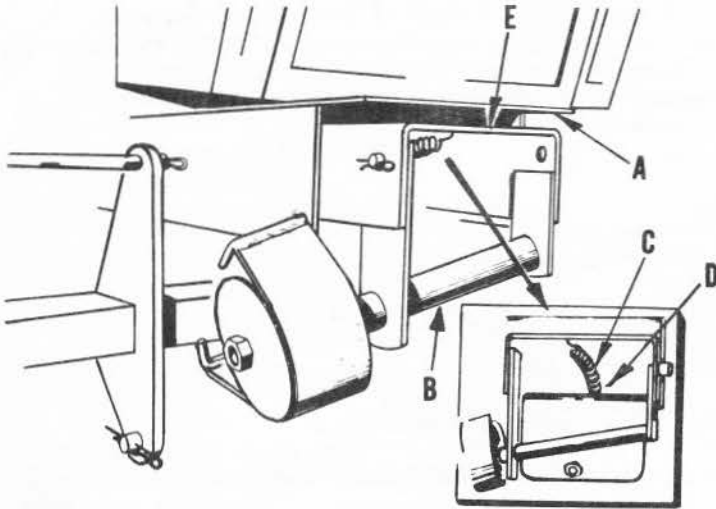

FIG. 4
1. Refer to Fig. 4. Raise front channel cover (A), on tractor and slip the idler shaft assembly (B), into front of tractor frame. Hook spring (C), into hole of front axle bracket (D), and hole in front of idler frame (E), of idler shaft assembly. Spring shipped in bag of parts.
2. Remove spring retainer from adjusting pin, unlock spring from frame and front axle bracket and remove idler shaft assembly and belt from frame. Refer to Fig. 4.